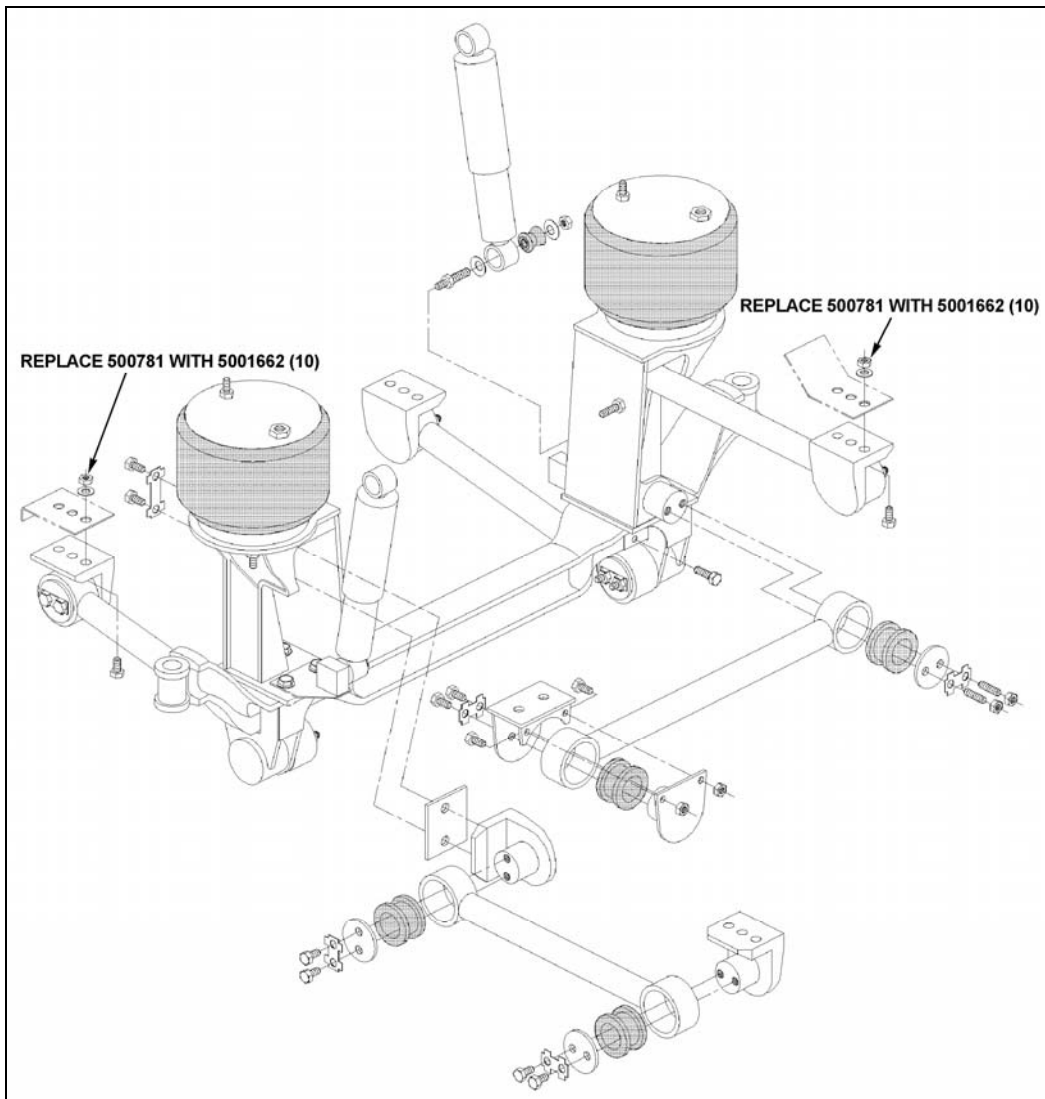

FIGURE 1: H3 VEHICLES I-BEAM FRONT AXLE
2. Locate each nut to be replaced (Refer to figures 1 to 7).